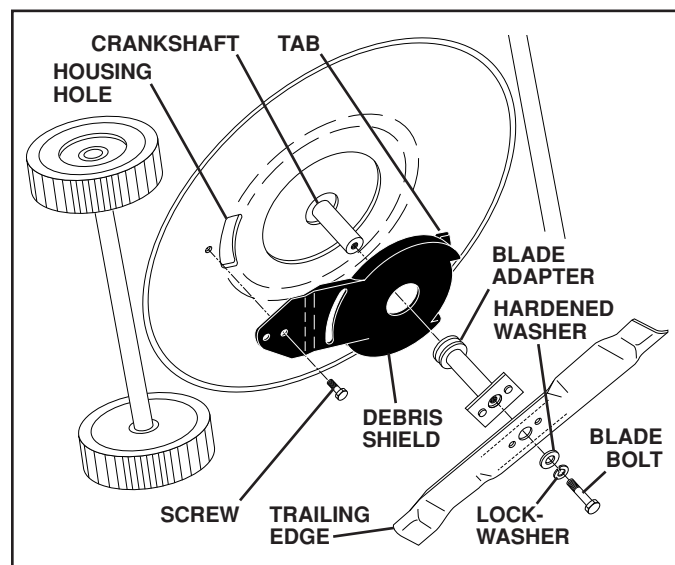

FIG. 20
6. Remove screw securing debris shield. Note that the debris shield has a tab which fits into a gap in the housing (See Fig. 20).
4. Position blade on the blade adapter aligning the two (2) holes in the blade with the raised lugs on the adapter.
5. Be sure the trailing edge of blade (opposite sharp edge) is up toward the engine as shown (See Fig. 20).